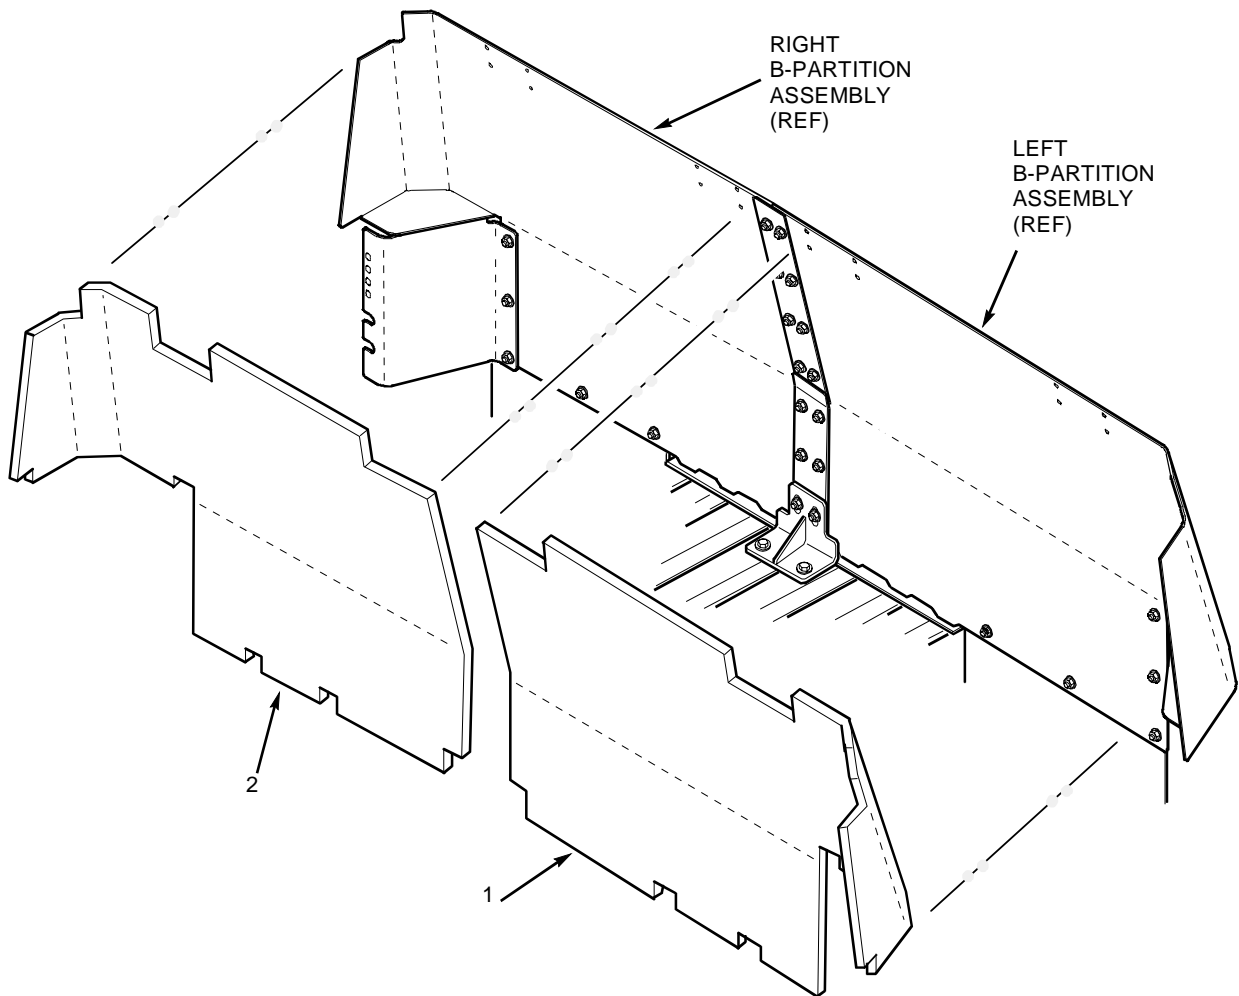

Figure 1-21. B-Partition Insulation Installation (2 Door Only)
6. Install B-partition insulation as follows (see figure 1-21).
- a. Clean inside surface of right B-partition (2) and left B-partition (1) with denatured alcohol.
- b. Peel back protective cover on left B-partition insulation (1). Carefully install left B-partition insulation (1) to left B-partition and press firmly in place.
- c. Peel back protective cover on right B-partition insulation (2). Carefully install right B-partition insulation (2) to right B-partition and press firmly in place.